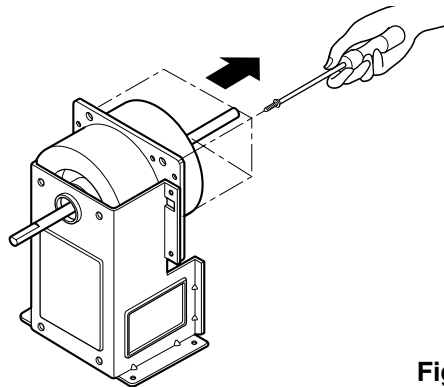

Figure 25
4. Remove the 4 screws that fasten the motor from the air guide. (See Figure 25)
6. Re-install the components by referring to the removal procedure, above.(See Figure 25)